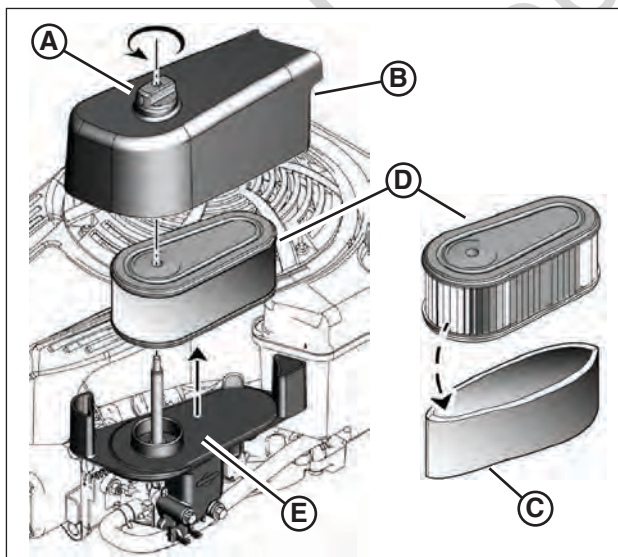

Figure 24: Air filter (oval)
1. Remove the fastener (A, Figure 24) and the air filter cover (B).
2. Remove the pre-cleaner (C), if equipped, and the filter (D).
6. Install the filter and pre-cleaner into the base (E). Make sure filter fits securely in the base.